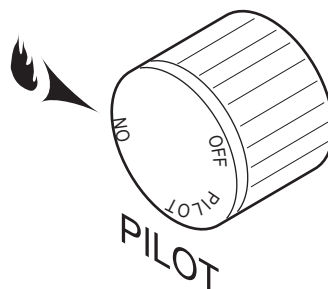

Figure 51 - On Position
Depress and turn the knob counterclockwise ↺ to the “ON” position. *Figure 51*. It will take less than four (4) seconds for the burner to ignite.